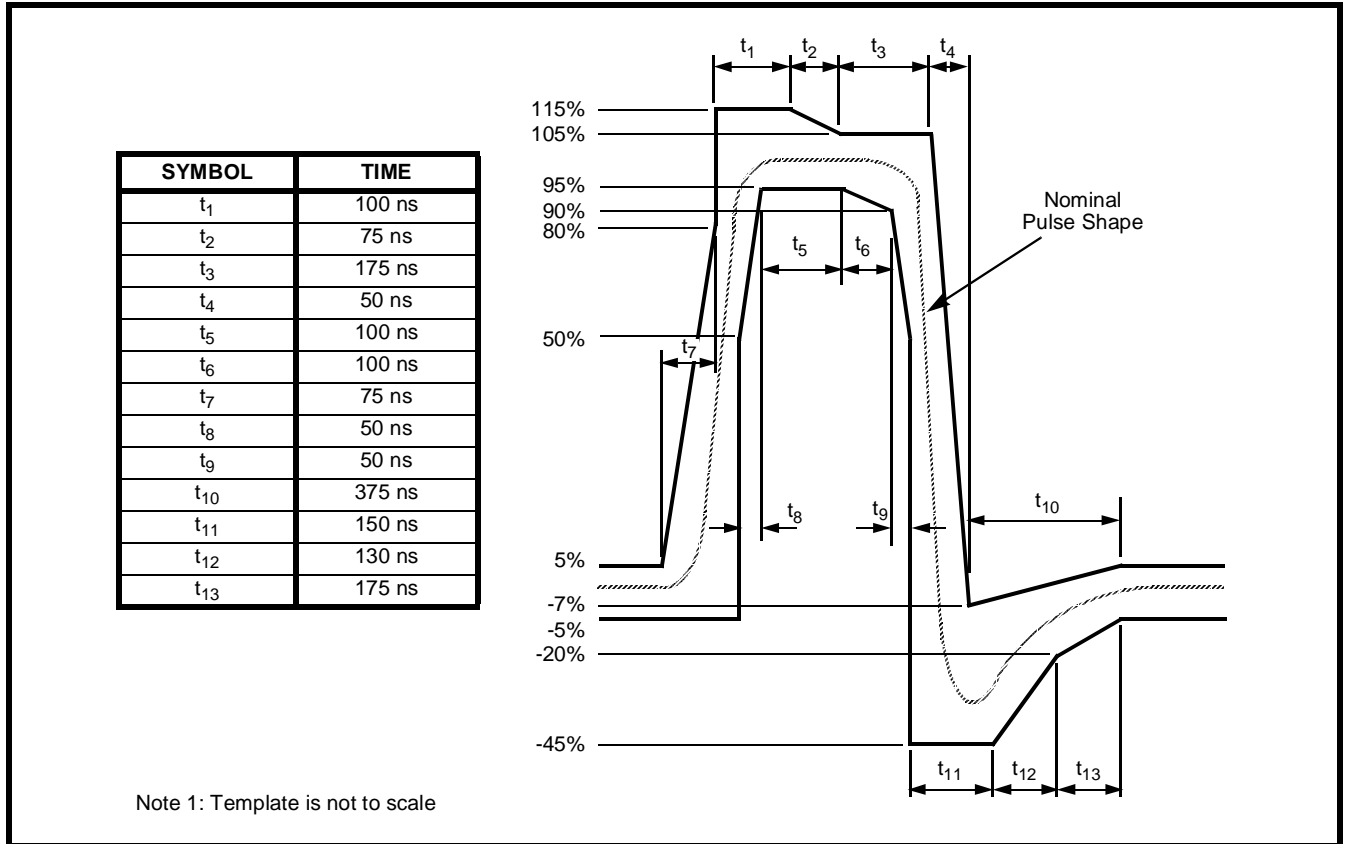
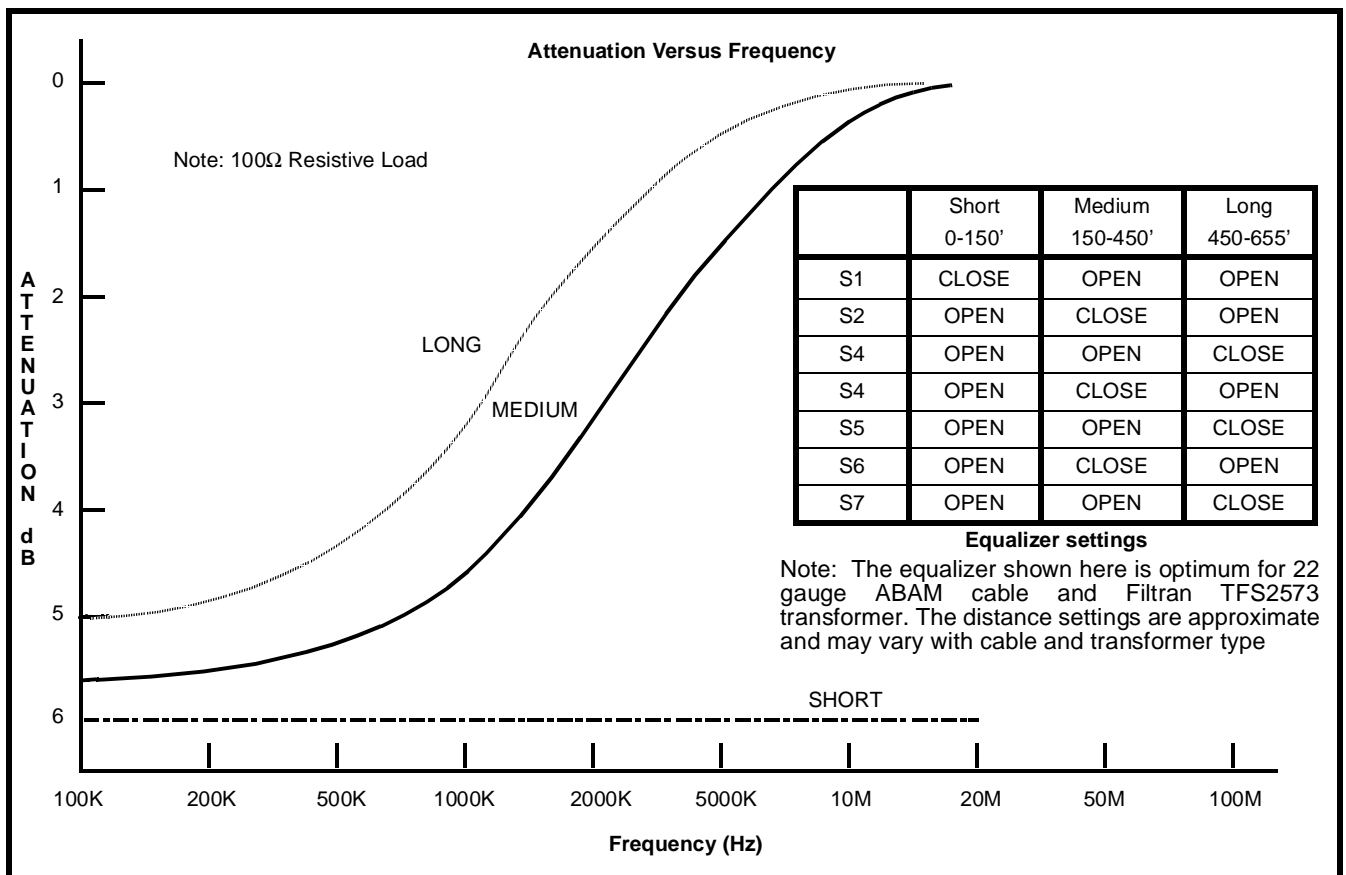

Figure 3 - DSX-1 Line Pulse Template (Reference: ANSI T1.102-1987)
Figure 4 - Typical Frequency Response of the Equalizers
The MH89761 is designed to accept output from the secondary of the T1 transmit transformer and condition it for transmission over twisted pair. The seven switches (S1 to S7) permit configuration of the equalizer for different line lengths. The pulse amplitude at the secondary of TR1 is approximately 6V. Passing this signal through the equalizer with zero line length setting on the switches will result in attenuation of the pulse by 6dB. This will ensure that the pulse fits in the template shown in Figure 3 and meets DSX-1^① requirements. By switching in different C and L components, the frequency and phase response of the equalizer can be altered as shown in Figures 4 and 5. Note that the circuit attenuates lower frequencies more than higher frequencies. Consequently, when a pulse is passed through the equalizer, lower frequency components in the signal are attenuated more than higher frequency components. The intention is to compensate for the attenuation properties of twisted pair cable, which tends to attenuate higher frequencies more than lower frequencies. The net result is that a pre-equalized pulse will meet DSX pulse requirements after traversing a specific length of cable.
The cable length indicated along with the equalizer switch settings in Figure 4 are specific to 22 awg ABAM cable interfaced to an MH89760B equipped with a Filtran^② TFS2573 transformer. Different equalizer settings may be more appropriate for other cable and transformer types. Figure 6 shows the generic switch settings for different levels of equalization.